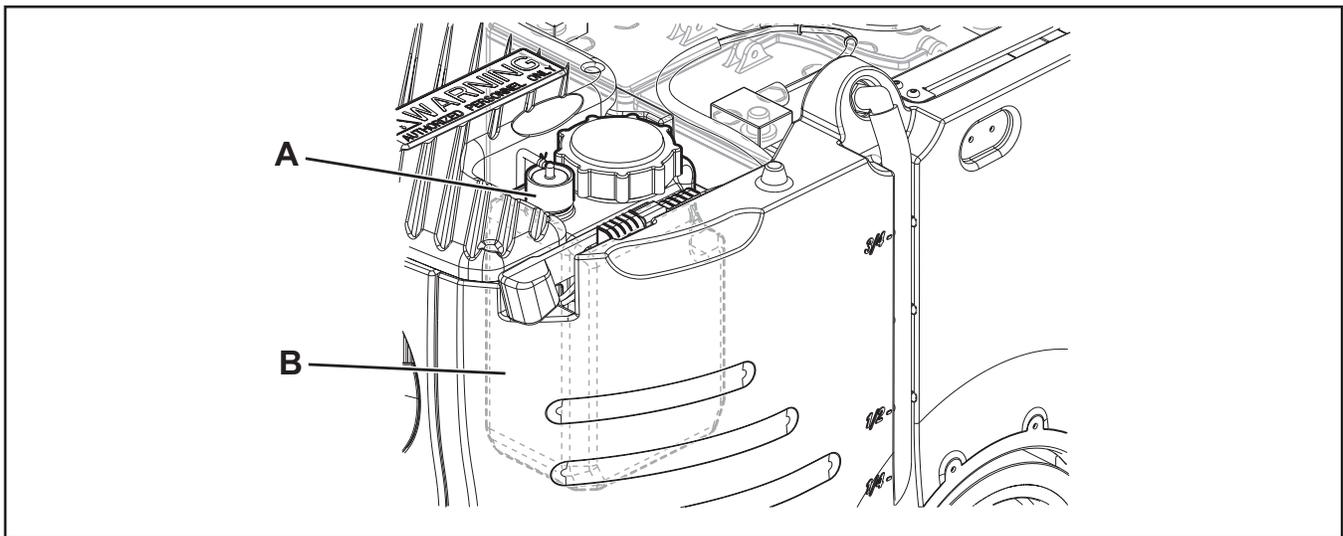

Figure 6
2. Ensure that the machine is off and the operator key (41) has been removed.
6. Unscrew the plug (A, Figure 6) from the detergent tank (B).
9. Replace the detergent tank (B) as shown in the figure, then refit the plug (A).